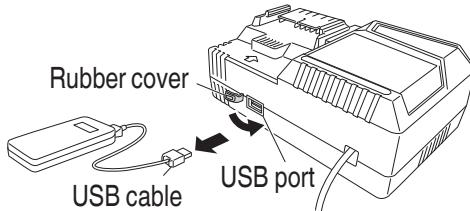

Fig. 25
(3) When charging is completed
- Unplug the power cord from the electrical outlet. (**Fig. 25**)